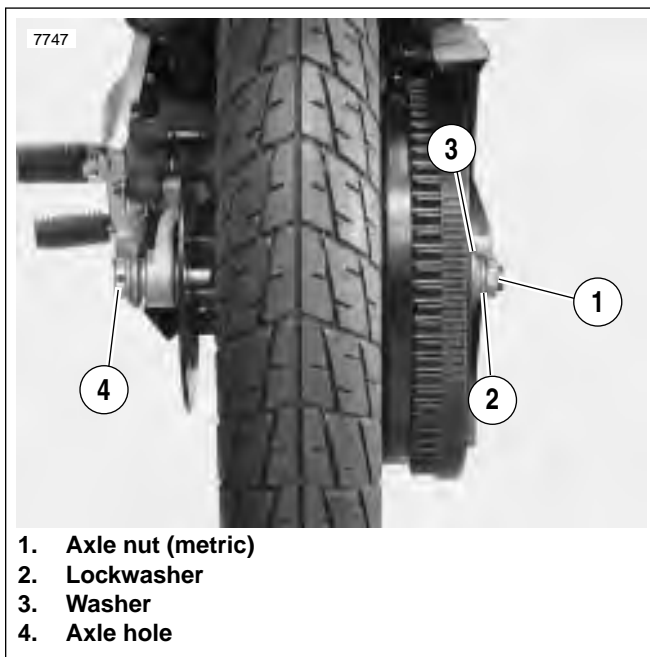

Figure 2-8. Rear Wheel Mounting
3. See Figure 2-8. Place rod or screwdriver through axle hole. Loosen rear axle nut (1) (metric).